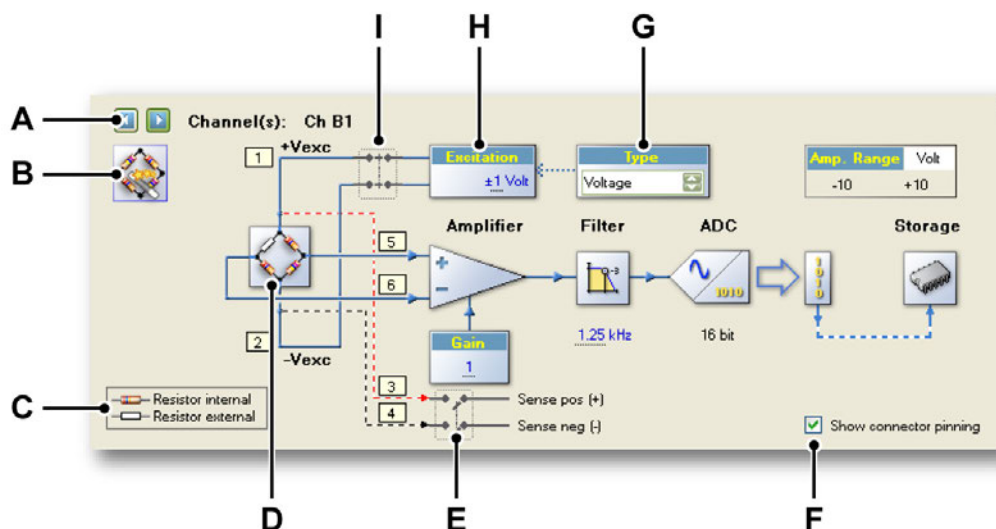

Figure N.9: Perception Bridge Amplifier simplified block diagram
- In the simplified graphical diagram, click on the bridge icon (D in Figure N.9 on page 911) until the full-bridge representation can be seen.
- In the simplified graphical diagram, click on the bridge icon (D in Figure N.9 on page 911) until the half-bridge representation can be seen.
- In the simplified graphical diagram, click on the bridge icon (**D** in Figure N.9 on page 911) the quarter-bridge representation can be seen.
- In the simplified graphical diagram, click on the excitation switch (I in Figure N.9 on page 911).
- In the simplified graphical diagram, click the **Type** spinner (G in Figure N.9 on page 911) the correct selection is shown.
- In the simplified graphical diagram, use the **Excitation** box (H in Figure N.9 on page 911) to enter a value.
- **Voltage Sense:** Voltage excitation with sense. Sense inputs are used to monitor the voltage at the sensor connection point. This puts the switch marked S1a and S1b in Figure N.9 on page 911 into the sense position. Use the **Voltage** procedure to set the required voltage. The sense check boxed (marked E in Figure N.9 on page 911) can also be used to toggle the sense lines.